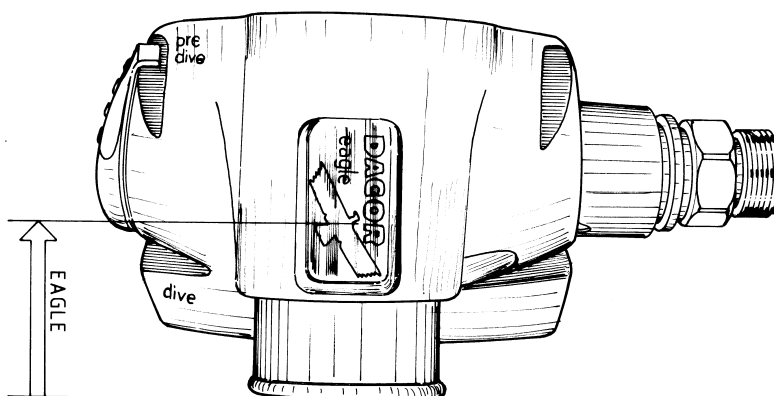

FIG. 11
- a. Remove the clamp (43) and the mouthpiece (44) from the second stage.
- c. When the water level, measured from the point shown in the diagram (Fig. 11) falls between the cracking values indicated in the table, the air should start to flow.